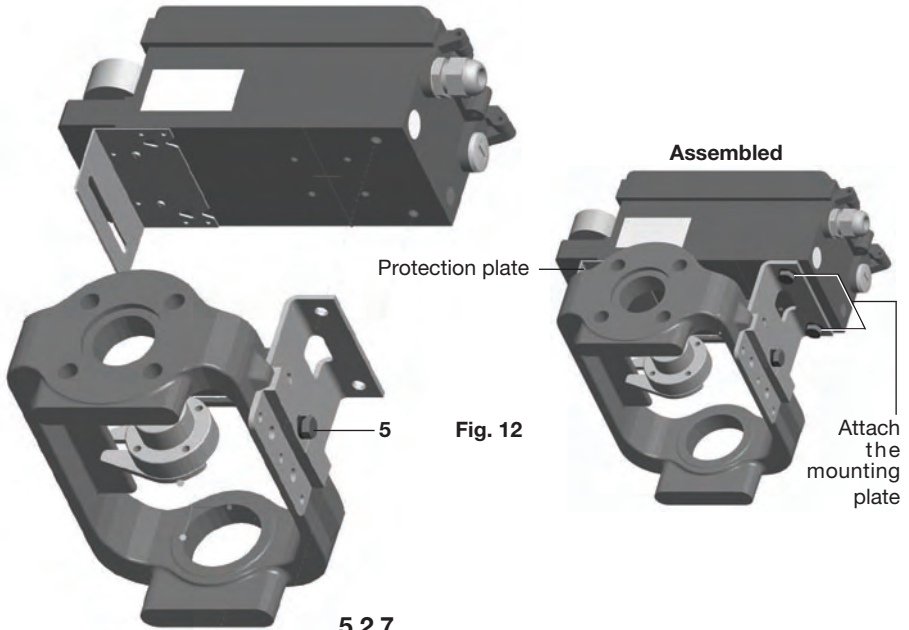
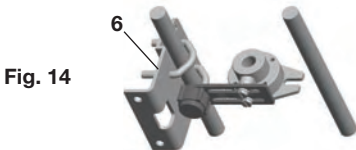

Fig. 12
Fig. 14
5.2.6 Attach the positioner mounting plate to the positioner as shown in Figure 12.
When the SP200 positioner and mounting plate assembly is correctly positioned, tighten the hexagon headed screw (5) on the yoke mounted actuator (Figure 12) to 10 - 12 N m and tighten the 'U'bolt nuts (6) on the pillar mounted actuators (Figure 14) to 10 - 12 N m.